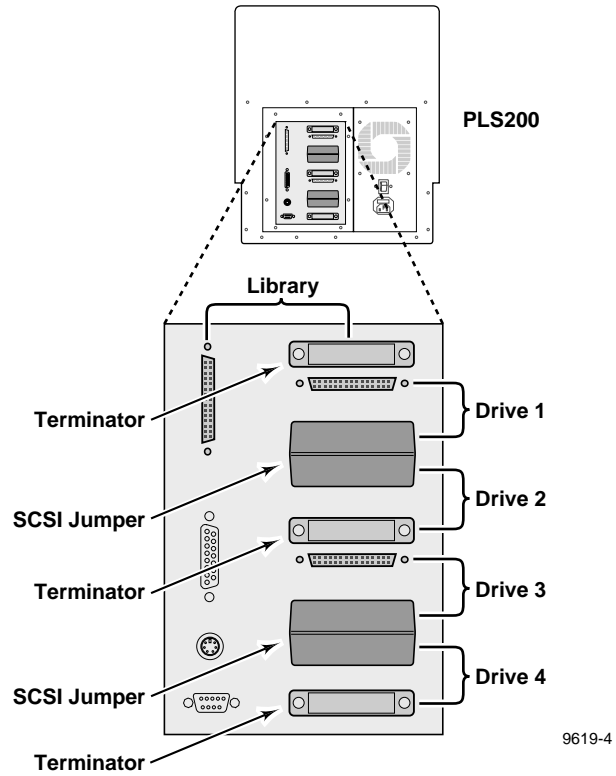

Figure 1-17 Installing the terminators and SCSI jumpers
2. Install the SCSI jumpers and terminators on the PLS 200 as shown in Figure 1-17.